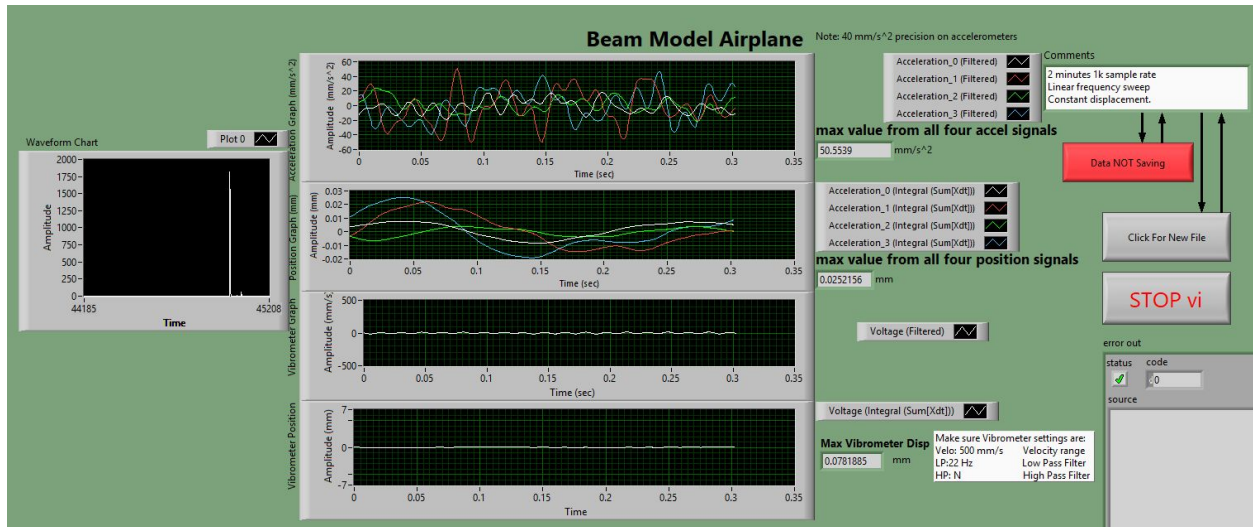

Figure 2: Beam Model Airplane VI with Data Not Saving
- a. The data will not be recorded until the 'Data NOT Saving' button is pressed, examples given in Figures 2 and 3 below.